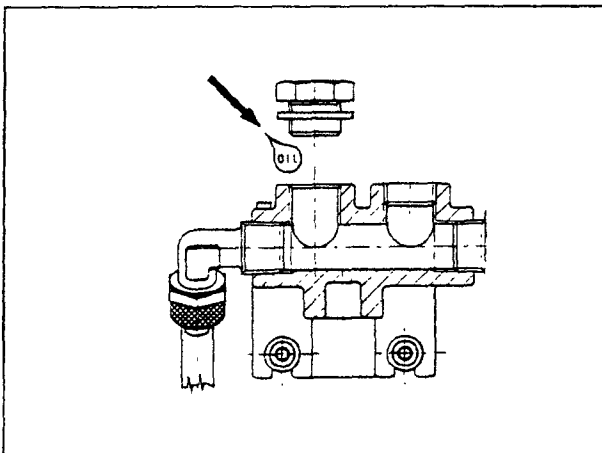

Fig.27
- * Open the lubrication cap and drop a small quantity of oil (2-3 cc) (Fig.27).